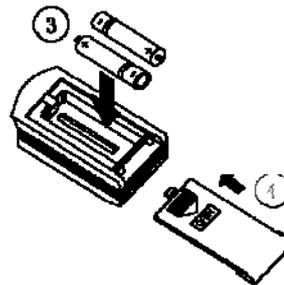

Fig.2
- 2、 Take out the old batteries ,insert two AAA alkaline cells(As show in Fig 2.)